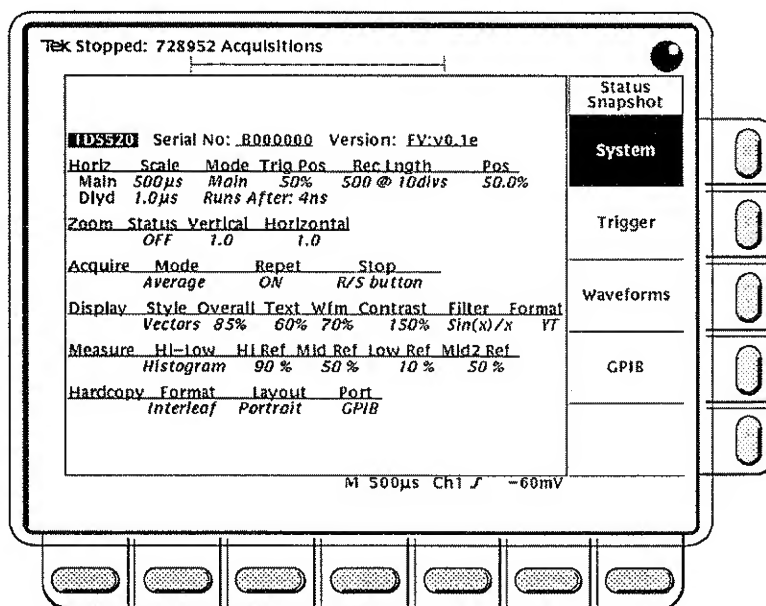

Figure 3-64: Status Menu – System Shown
- ☐ **Step 1:** Press the **STATUS** button (**SHIFT** and **HELP**) to bring up the Status side menu (Figure 3-64).
- ☐ **Step 2:** Select **System** from the menu to display information about the Horizontal, Zoom, Acquisition, Display, Measure, and Hardcopy systems (Figure 3-64).